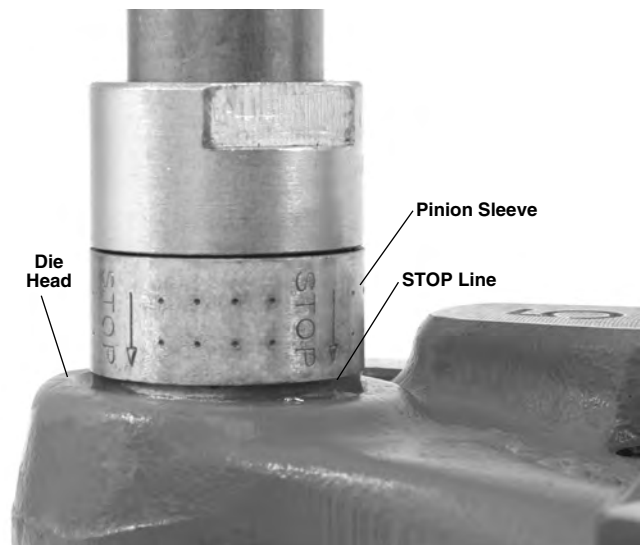

Figure 8 – Thread Complete – Top of Die Head Flush With STOP Line
- Continue ratcheting until the top edge of the die head is flush with the red stop line on the pinion sleeve (see Figure 8).
12. Continue threading until the edge of the die head is flush with the red stop line on the pinion sleeve (Figure 8). Release foot switch. If threading is continued past the red stop line, the pinion shaft will disengage to prevent jamming. Do not continue to operate with the pinion shaft disengaged – over time this can cause tool damage.